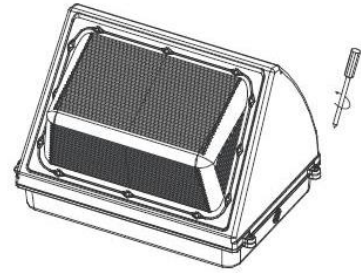

Figure 5
9. Secure the fixture closed by tightening the screws on the side of the fixture. (Figure 5)